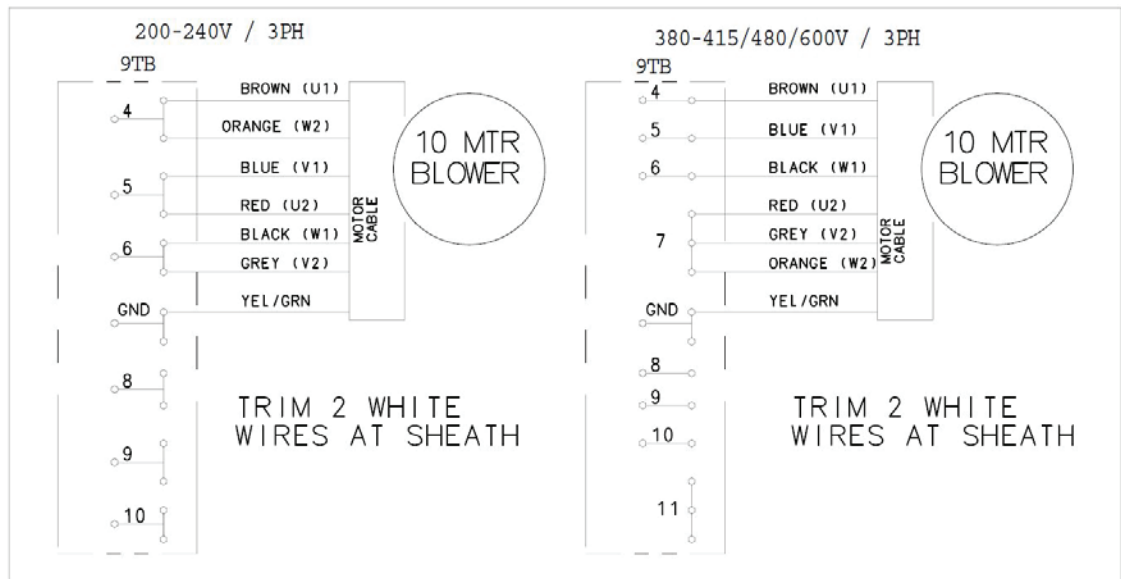

Fig. 27
6. Connect blower motor wires to 9TB terminal block in the control box. If wires are stripped, cut end of wire to remove stripped end before making connection. Ensure motor is wired per machine voltage (see data plate for machine voltage) (Fig. 27).